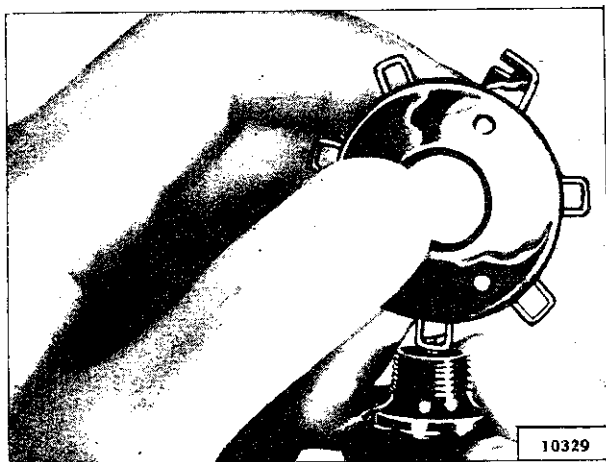

FIG. 11—SETTING SPARK PLUG GAP
- e. Measure the electrode gap of each plug with a wire gauge as shown in Fig. 11. Adjust each electrode gap to the specified gap by bending the outer electrode mounted in the plug shell.